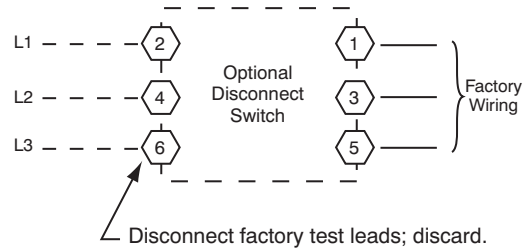

Fig. 27 — Power Wiring Connections
Field power wires are connected to the unit at line-side pressure lugs at the main terminal block (TB1) or at factory-installed option non-fused disconnect switch (see Fig. 26). Max wire size is #2 AWG (copper only). (See Fig. 27.)
Size wire based on MCA (Minimum Circuit Amps) on the unit informative plate. See Fig. 27 and the unit label diagram for power wiring connections to the unit power terminal blocks and equipment ground. Maximum wire size is #2/0 AWG per pole.
The factory-installed option disconnect switch is located in a weatherproof enclosure located under the main control box. The manual switch handle is accessible through an opening in the access panel. Discard the factory test leads (see Fig. 27). The factory disconnect is an 80A disconnect.
2. Install power lines to terminal connections as shown in Fig. 27.